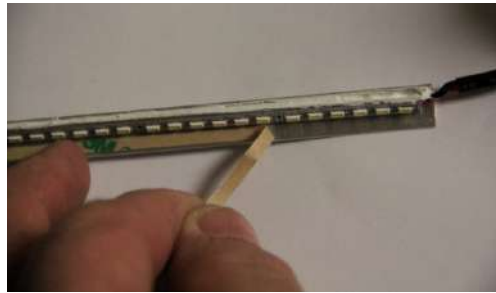

Figure 8a
4. **Attaching the light bars to the light guide panel: Top edge only with printed side of LGP to the rear**—this is critical and is marked on the panel. Use the PS adhesive strip that is on the light bar. Make sure the LED lights come in direct contact with the top edge of the light guide panel and that the connection prongs from the light bar to next light bar is secure and firmly in place (see figures 8a, 8b, and 8c). **Note the adhesive strip of the light bar attaches to the printed side of the LGP only (if not installed properly luminance will be greatly reduced).**